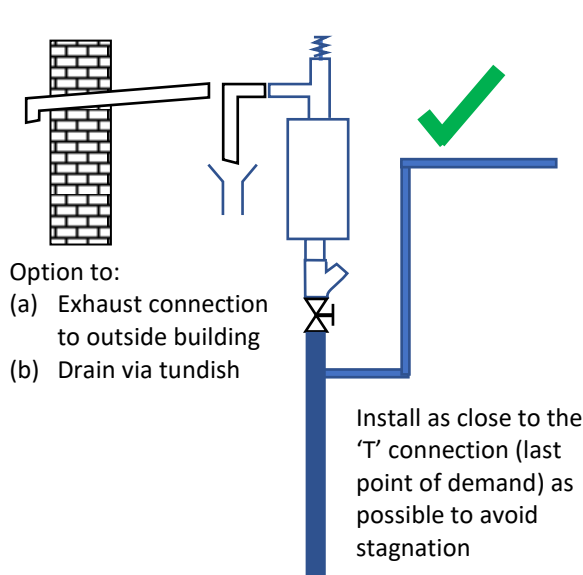
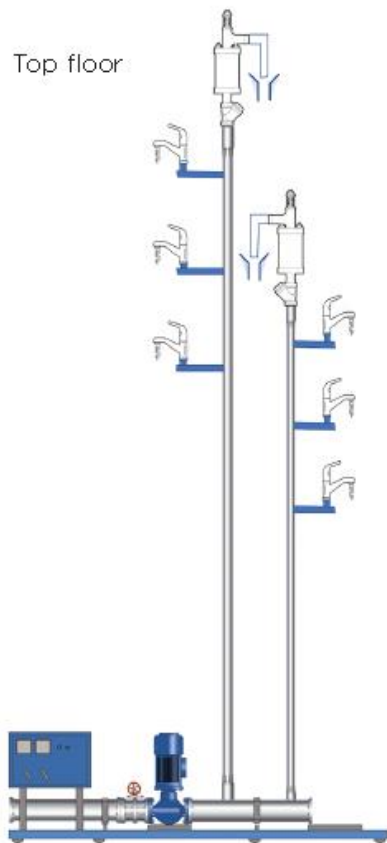

FIG 3.1
FIG 3.3
1. Refer to Fig. 3.3 as an example of multi-riser use. Install the Vent-A-Riser at the top of the riser (see Fig 3.1) noting location conditions above.
3. Where more than one riser is used, install a Vent-A-Riser at the top of each riser (see Fig 3.3)
6. Vent-A-Riser must be installed vertically as shown in Fig 3.1